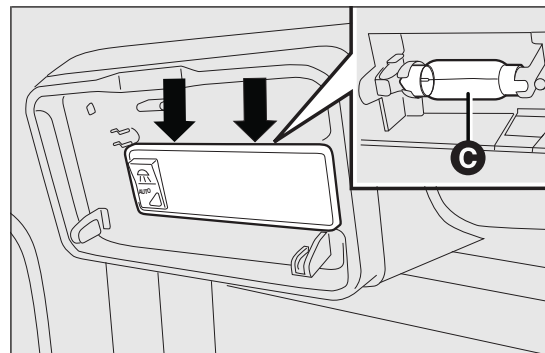

fig. 166
- ❑ change the bulb C fig. 166 by releasing it from the side contacts and making sure the new bulb is correctly fastened between these contacts;